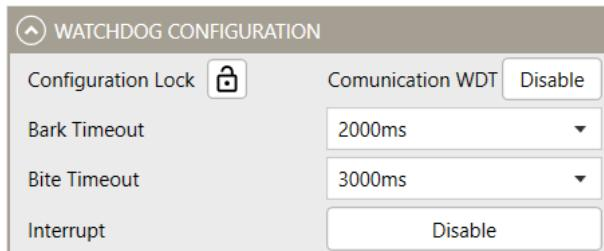

Figure 15: Watchdog Configuration
10. Figure 15 shows how to configure the watchdog.